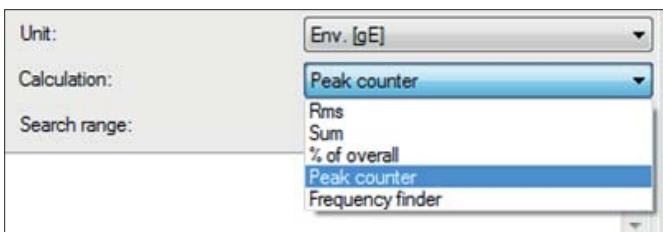

Fig. 7c. Select calculation method – “Peak counter”.
- **Calculation method and Search range** will be explained separately below in **figs. 7c** and **7d**.
The other calculation methods in **fig. 7c** will do the following: